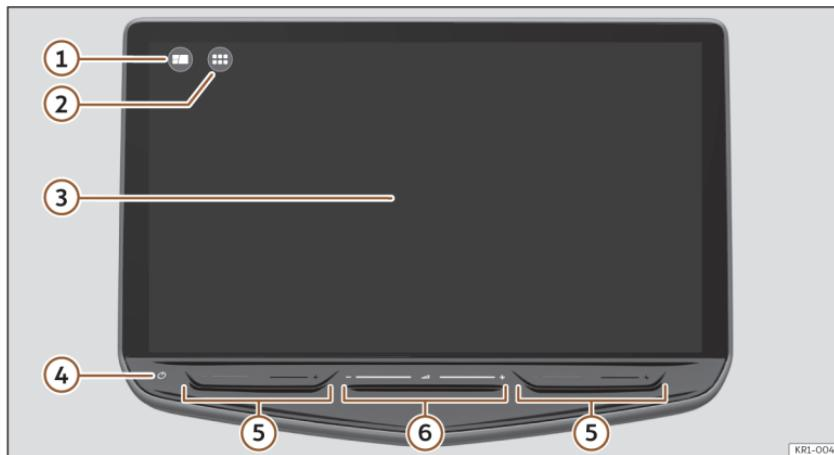

Fig. 159 Overview: control unit (left-hand drive vehicles).
» Fig. 159 ① view to quickly access your favourite or most frequently used functions.